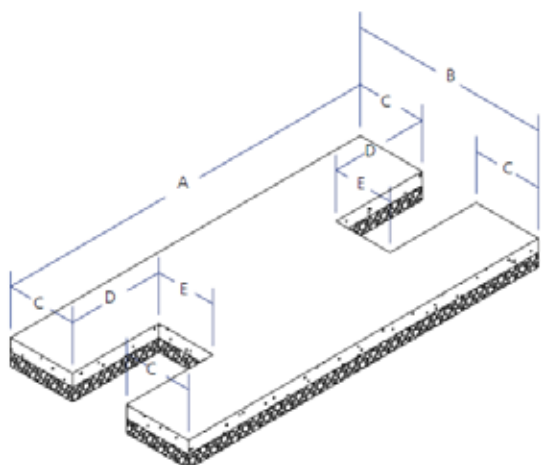

Figure 15: Concrete base details
- Single stream as per page 44, figure 15 and table 4.